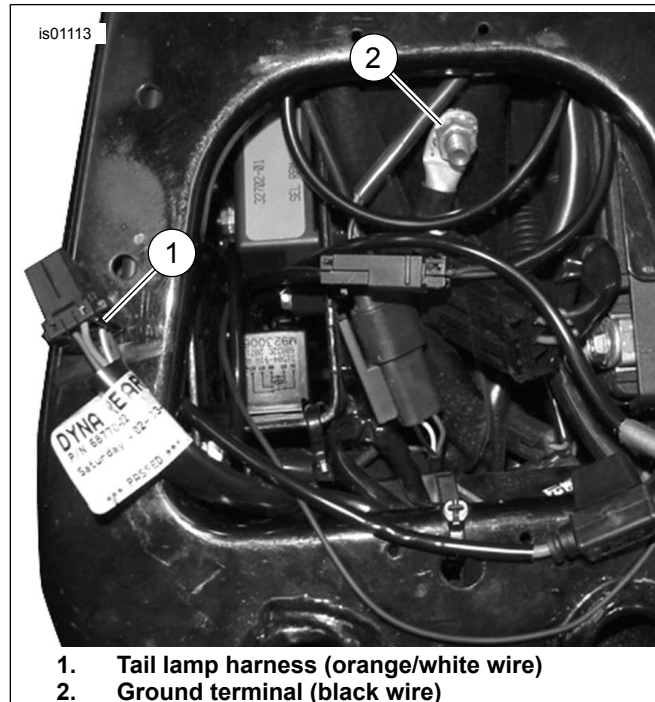

Figure 2. Power and Ground Connections (Dyna Models)
3. See Figure 2. Cut the black wire on the Zumo wire harness to easily reach the ground location, and crimp the ring terminal to the end of the wire per the Packard crimping tool instructions in the service manual appendix.
2. See Figure 2. Carefully slice open an area of the main harness wrap inside the side cover at an accessible point, and cut an orange/white main harness power lead.